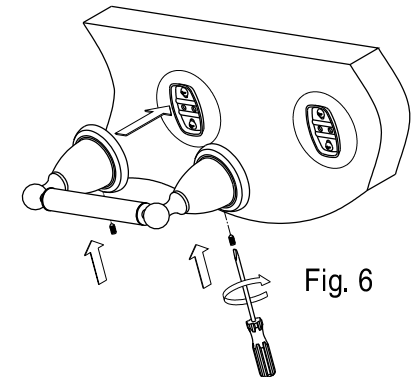

Fig. 6
- Step 7. Place the unit, with the small hole in the base underneath, over the mounting plate by tightening the slotted set screws with a flat head screwdriver until the base is tightly fixed (fig 6).
- Step 6. Place the unit, with the small hole in the base underneath, over the mounting plate by tightening the slotted set screw with a flat head screwdriver until the base is tightly fixed (fig 6).